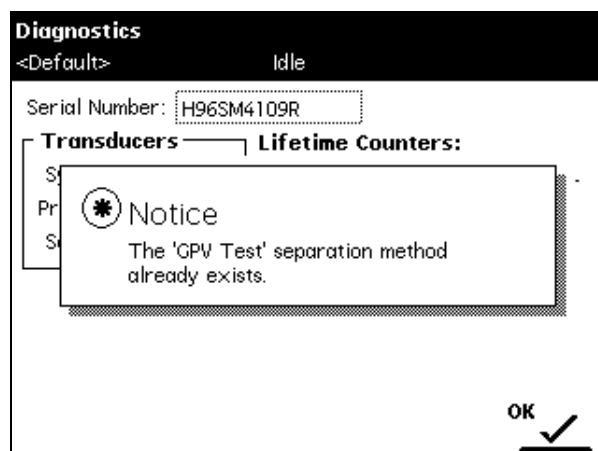

Figure 8-15 GPV Test Separation Method
- The GPV test method already exists (Figure 8-15)